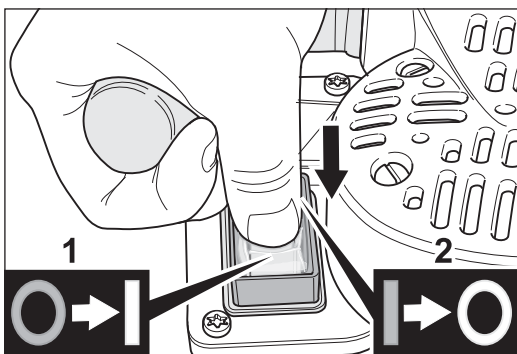

Fig. 10 Start (1) and switch off (2) the machine using the rocker switch.
- 2 Flip the rocker switch to "I" (fig. 10, 1). The switch button will snap into the place and the motor will be started.
- 2** Flip the rocker switch to "0" (fig. 10, 2). The switch button will snap into the place and the motor will be switched off.